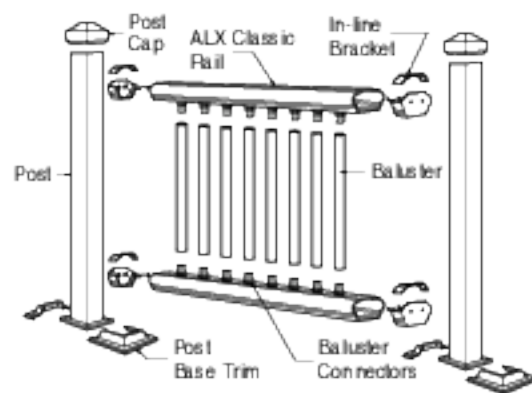

fig. 1
Step 7 Measure the distance between installed posts to determine the length of the top and bottom rails (fig. 1). Lay bottom rail on deck. The distance between the post and the first baluster should be less than 4" and equal on both